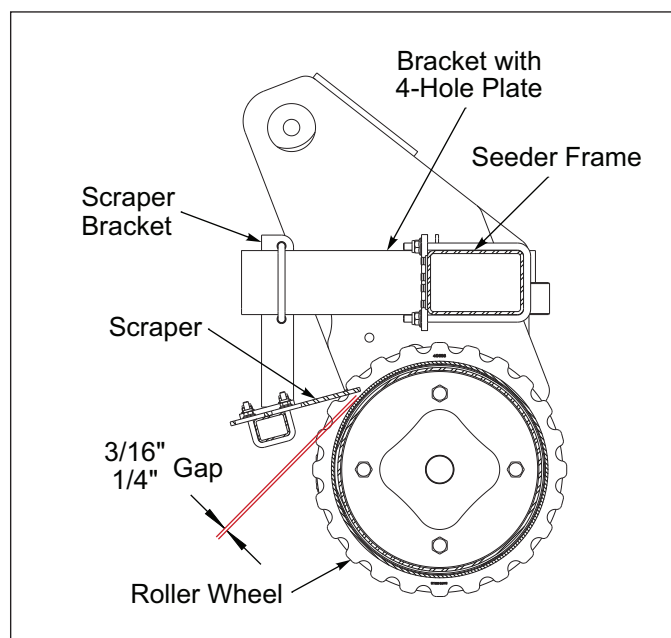

Figure 5-16: Scraper Dimensions
4. Adjust the Scrapers as needed to achieve a 3/16" to 1/4" gap between the Scrapers and Roller Wheels. **See Figure 5-16.** Scrapers should be close enough to the Roller Wheels to be functional but without interference.